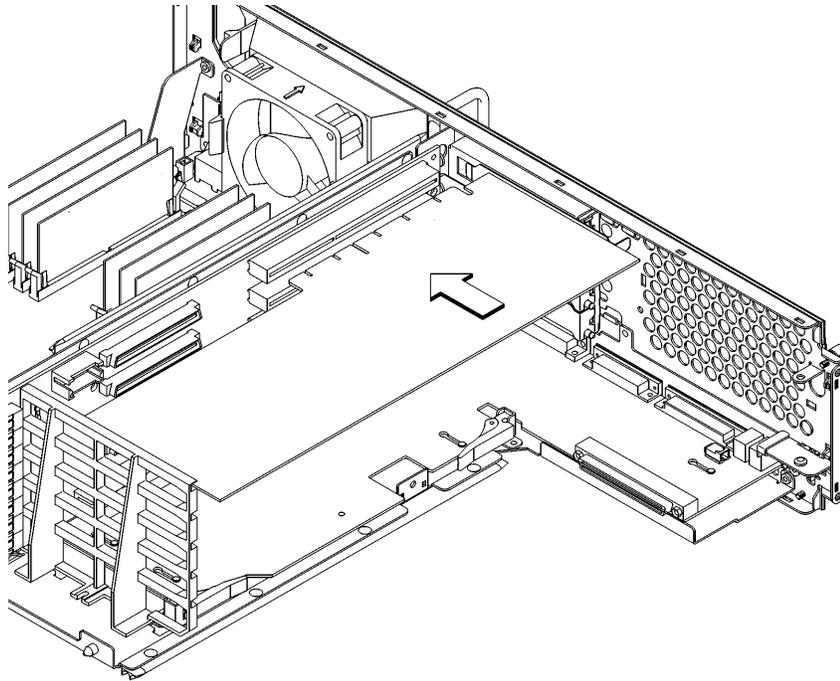

Figure 55 **Installing an Option Board**
- 7 Slide the board into the slot, as shown in Figure 55. Make sure that the hole in the board's handle aligns with the pin on the back panel.